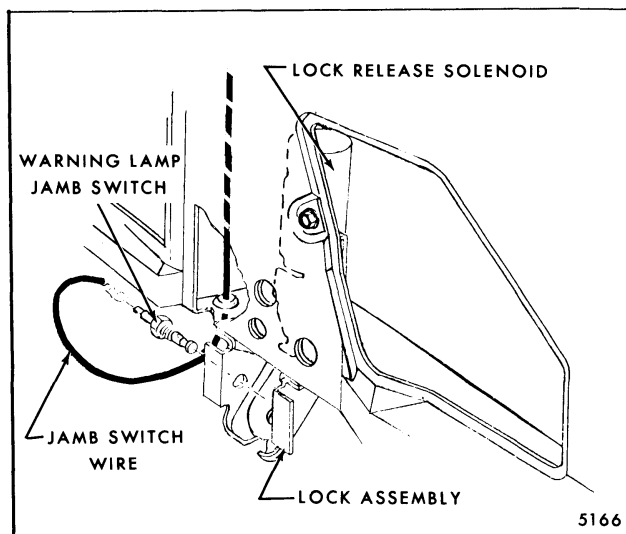

Fig. 7-62-Tail Gate Warning Lamp Jamb Switch
2. Disconnect wire harness terminal from warning light jamb switch on lock assembly (Fig. 7-62).
A grounding type jamb switch is mounted to the tail gate lock assembly. Its function is to complete an electrical circuit for the instrument panel warning light when the tail gate lock is in any position other than fully locked (primary lock position) provided the ignition is "ON" (Fig. 7-62).